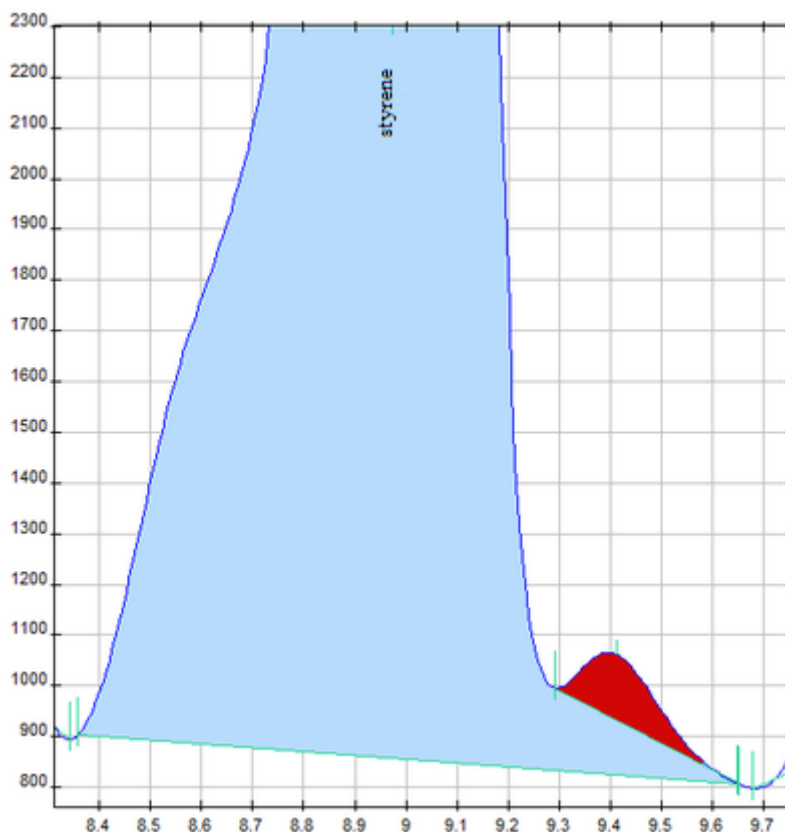

Fig. 3: Shoulder
- Shoulder is a peak on the tail of a larger peak. Fig. 3 shows peak 2 area which is smaller than peak 1 area, so peak 2 is considered a shoulder.